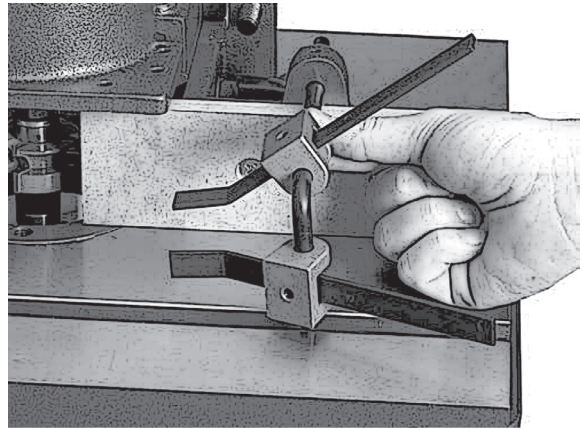

Fig 18. Inserting hold-down bar into fence bracket.
2. Slide the long arm of the hold-down bars through the holes in the cast iron fence brackets as shown in Figure 18.